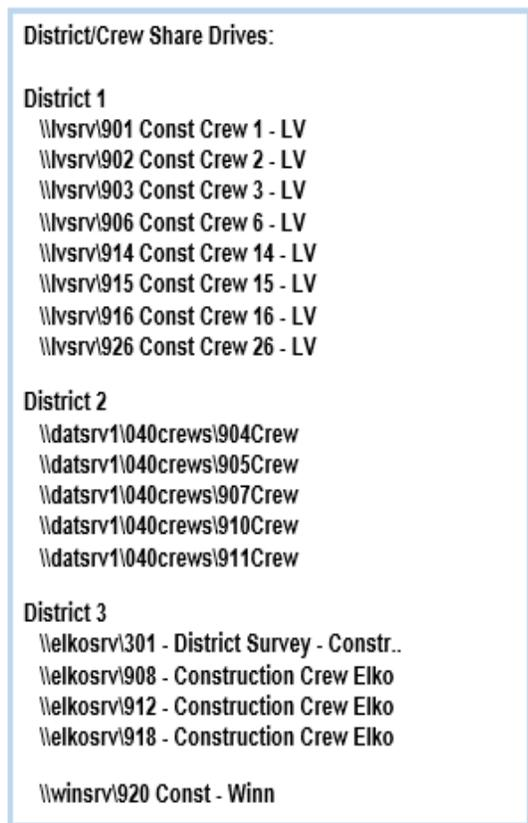

**Figure 2-7: Extract Compressed (Zipped) Folders**
7. Click **Browse** to select the Destination and Extract Files (Figure 2-7).